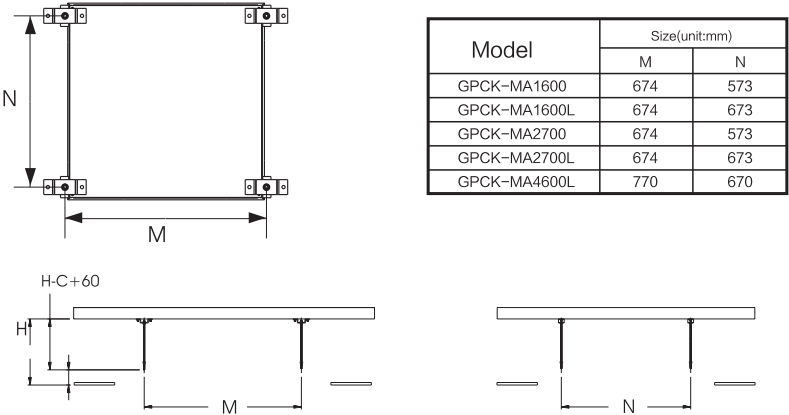
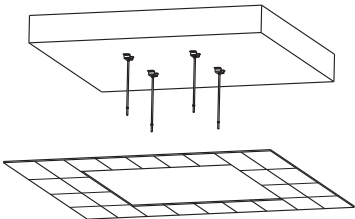

figure 4
figure 5
3. Ensure the security distance M、N according to the figure 4 and the model of table. Install the brackets to the roof via the screws, figure 5.